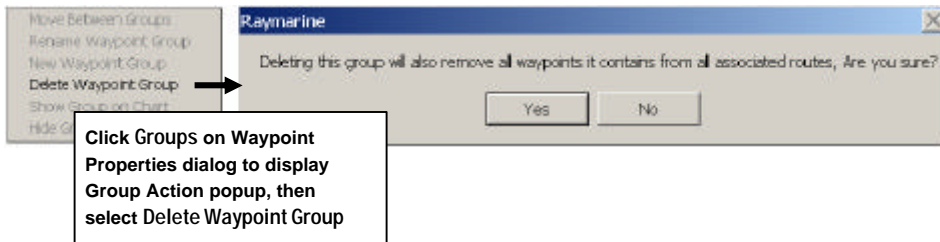

Figure 4-23. Deleting a Waypoint Group
4. Select **Delete Waypoint Group**. A dialog box appears (Figure 4-23) warning you that deleting a waypoint group also deletes the waypoints that group shares with others (if any) — use care.